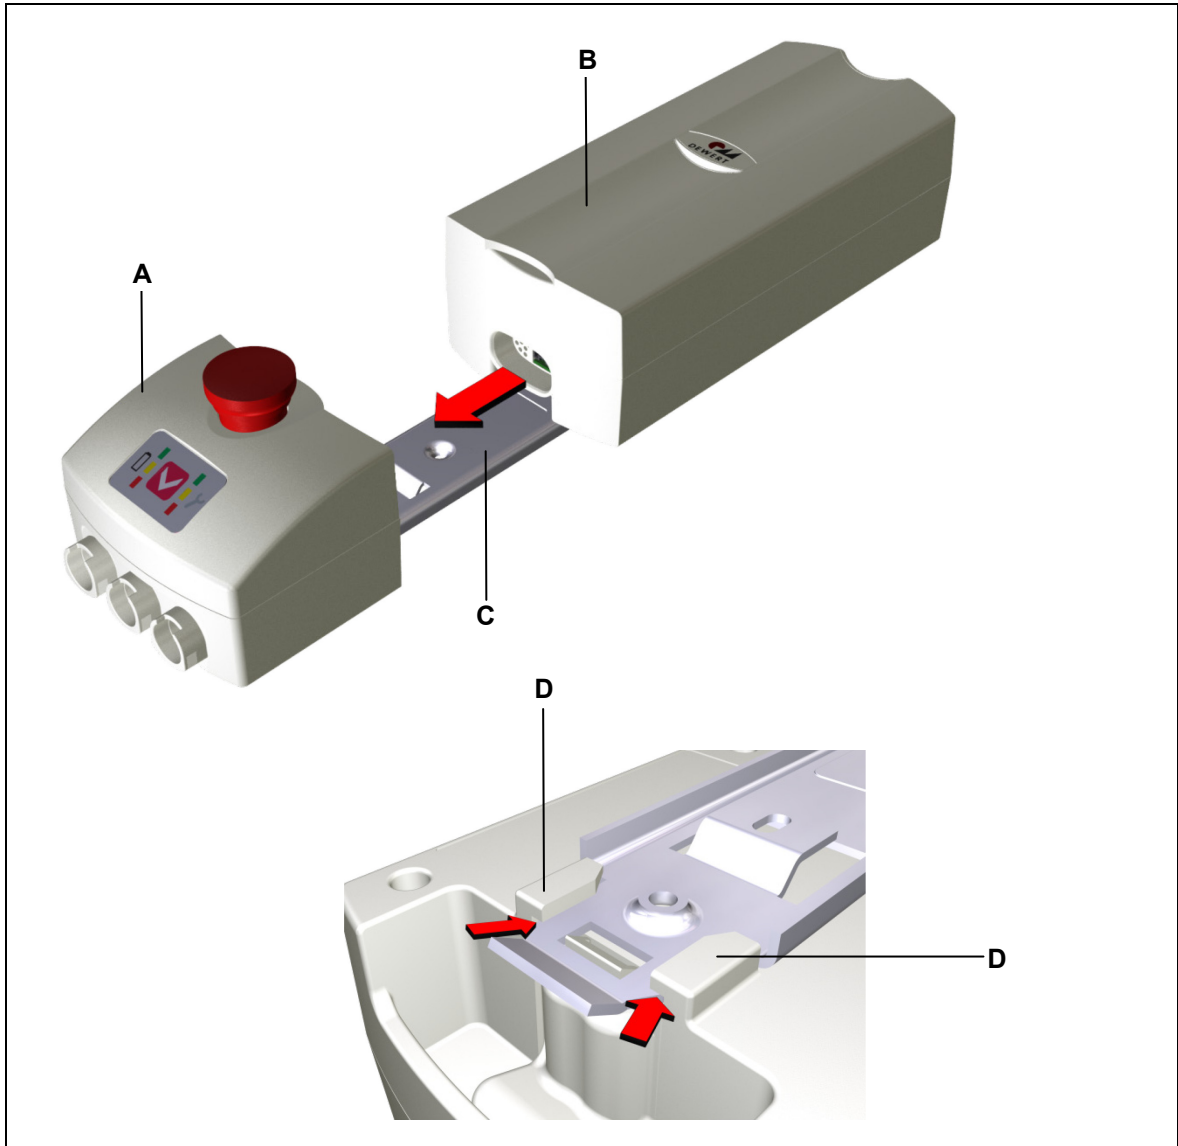

Figure 13 Inserting the ACCU in the CONTROL
- 2 Slide the ACCU on the mounting rail (as shown in Figure 13) until it clicks into place. The housing guide tabs (D) must enclose the mounting rail to ensure a tight fit.